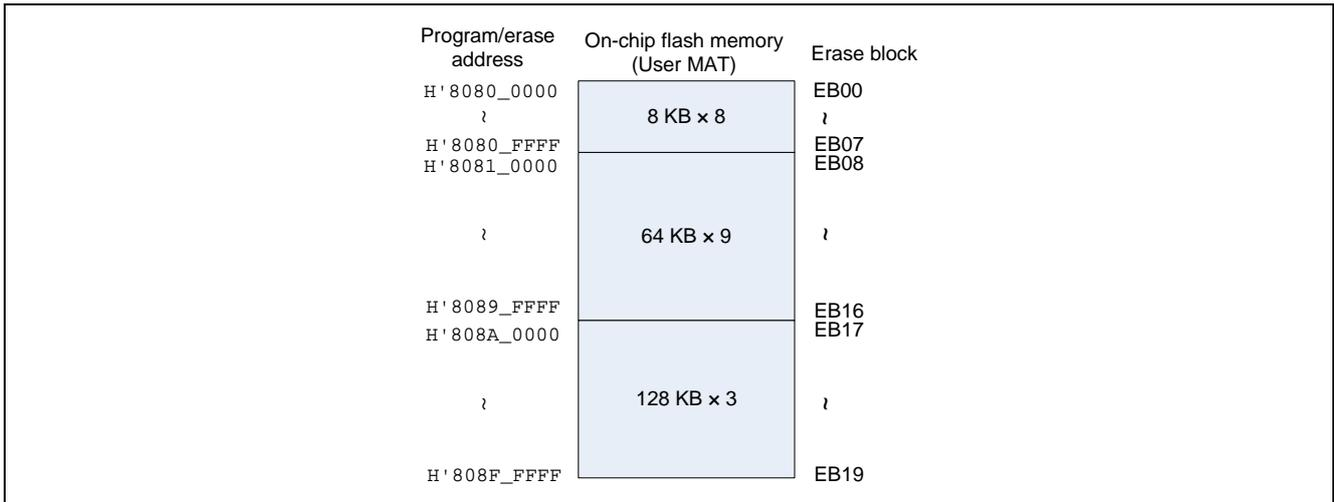
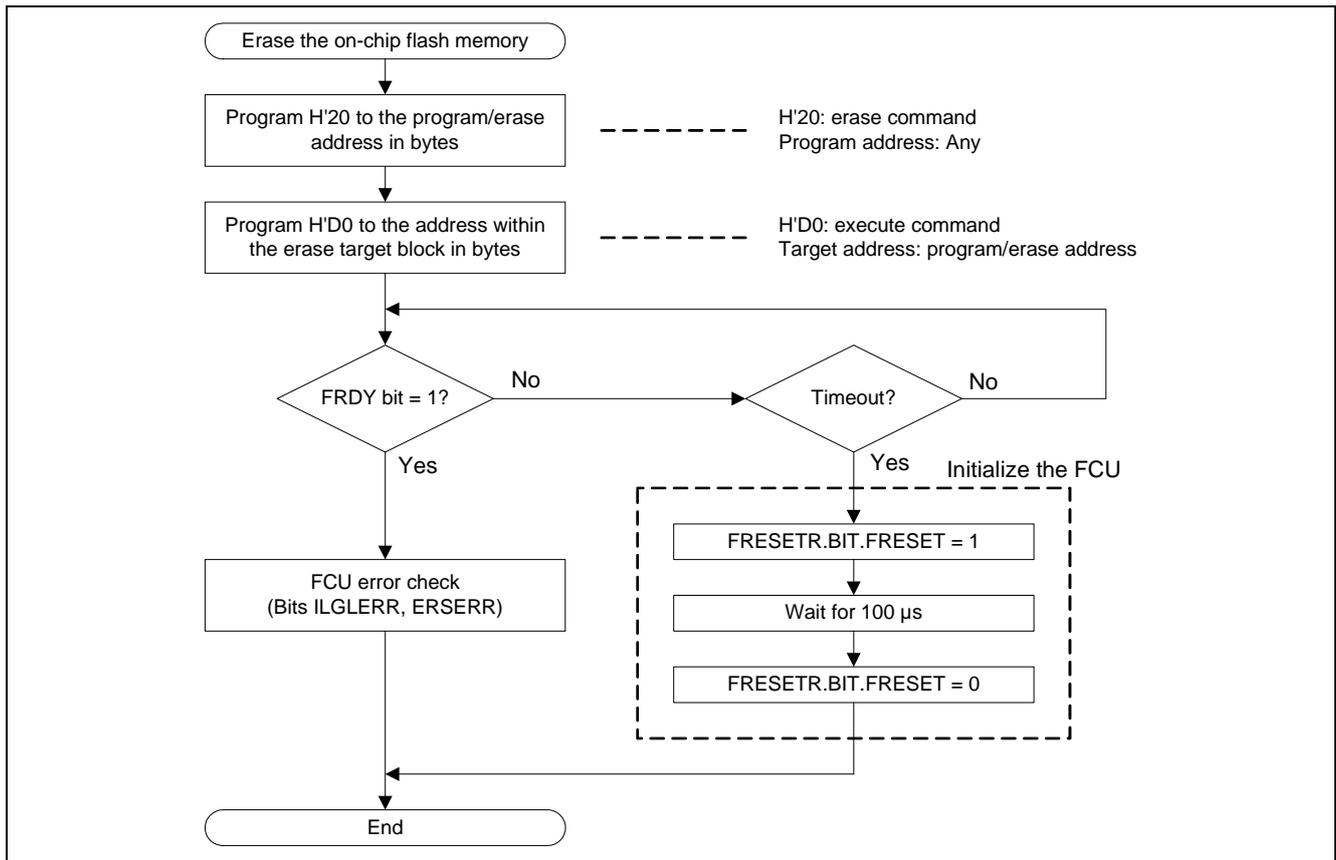

Figure 5 Dividing the On-chip Flash Memory Erase Block
Figure 6 Flow Chart for Erasing the On-chip Flash Memory
Figure 5 shows the block division of the SH7216. Table 1 lists each block and address. Figure 6 shows the flow chart ⁽²⁾ for erasing the on-chip flash memory.
2. The flow chart in Figure 6 does not follow the standard API.